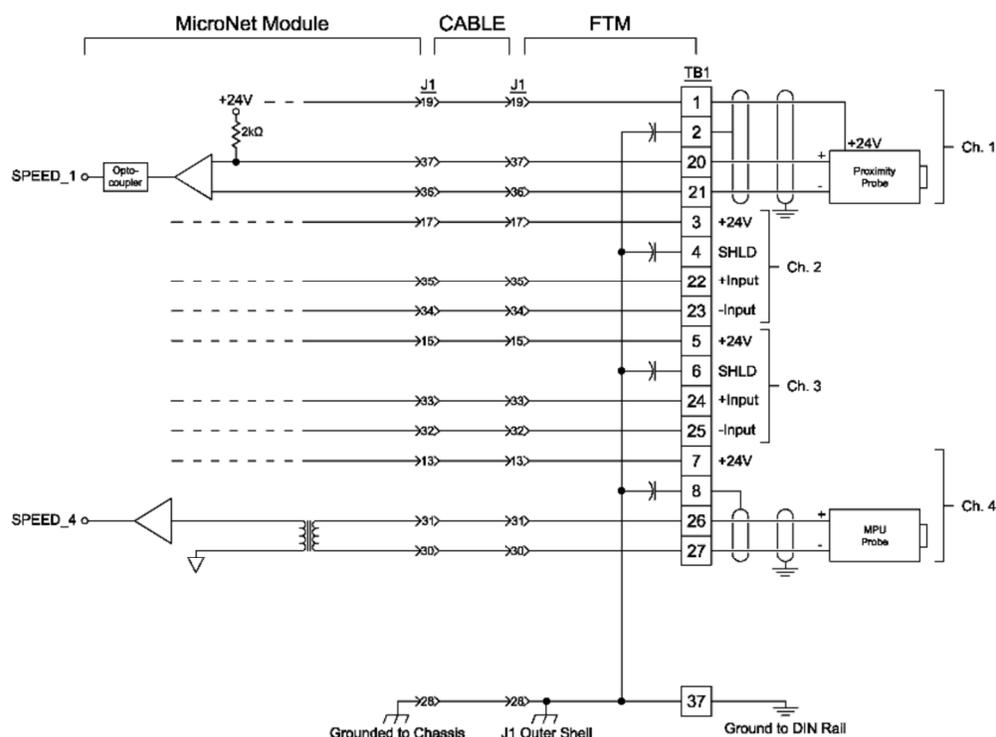

Figure 11-3. Example MPU and Proximity Probe Interface Wiring Diagram
- Refer to Figures 11-3 and Appendix E for Speed Sensor wiring connections on the FTMs.